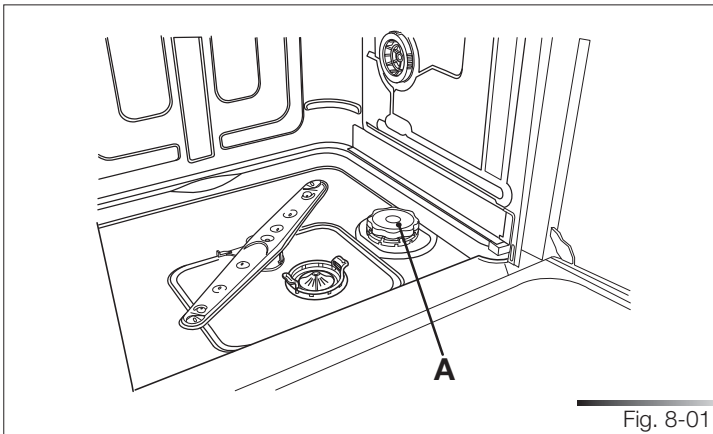
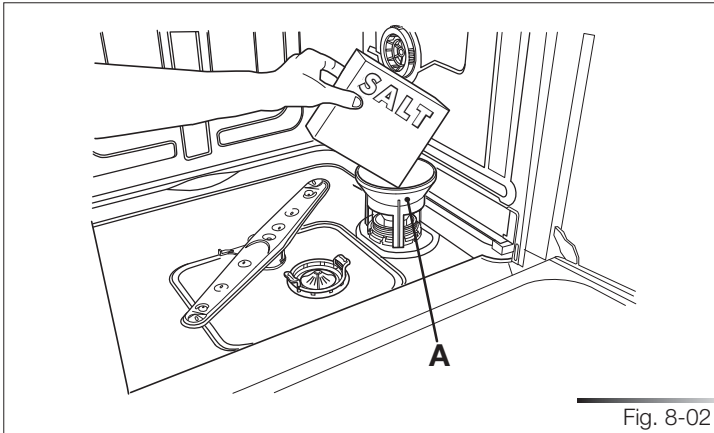

Fig. 8-01
Fig. 8-02
The amount of scale contained in the water (water hardness index) can cause whitish staining on the dry dishes, which tend to become dull over time. The dishwasher is equipped with an automatic softening system which uses a special regenerating salt to reduce the hardness of the water. The dishwasher is factory set for water hardness level 3 (average hardness **41-60°dF – 24-31°dH / 23.6-35 gpg**). When using water of medium hardness, the regenerating salt container should be refilled after approximately **20 washing cycles**. The salt container can hold approximately **1.7 Kg (3.75 lb)** of salt in grains. Some models are equipped with an optical no-salt indicator. In these models, the cap of the salt container contains a green float which descends as the salt concentration in the water drops. When the green float can no longer be seen, the container must be topped up with regenerating salt. The container is situated at the bottom of the dishwasher. After removing the lower rack, unscrew the salt container cap (ref. A fig. 8-01) by turning it counter clockwise and pour in the salt using the funnel (ref. A fig. 8-02) supplied with the dishwasher. Before replacing the cap (ref. A fig. 8-01), remove any salt residues from around the opening.
- Each time the salt container is refilled, make sure that **the cap (ref. A fig. 8-01) is securely closed**. The mixture of water and detergent must never penetrate the salt container, as this would compromise the operation of the regeneration system. In the event of this occurring, the warranty will be invalidated.